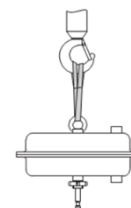

Fig. 1
(See Fig. 1)
1. Make sure that the valve plug is securely seated in the valve seat. (Fig. 1)